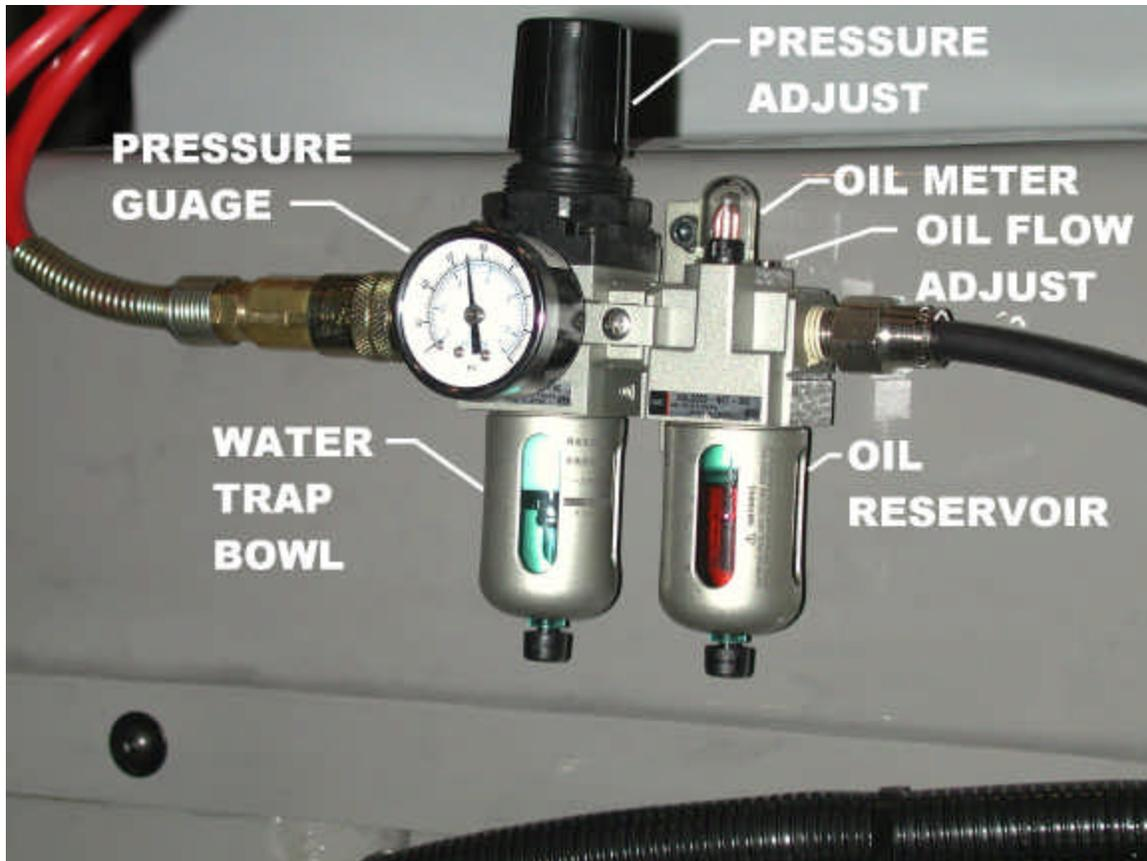

Figure 4-1
- Check and fill the oil reservoir located on the air regulator separator / oilier, be sure to use air tool oil. (See figure 4-1)
- Drain water from the water trap bowl located on the air regulator separator / oilier. (See figure 4-1)
The air regulator oiler that comes on the GL CNC series machines is equipped with an automatic water separator, the water trap bowl will drain the water collected automatically when the air supply is disconnected or turned off. The recommended operating air pressure for the GL CNC machine is 95 – 100 PSI or 6.5 – 7 Kg/cm². To adjust the air pressure pull up on the Pressure Adjuster knob (See figure 4-1) until it is free of the lock then turn the knob clock wise to increase the pressure or counter clock wise to decrease the pressure, When the required pressure is set, lock the knob in place by pushing down on the knob.